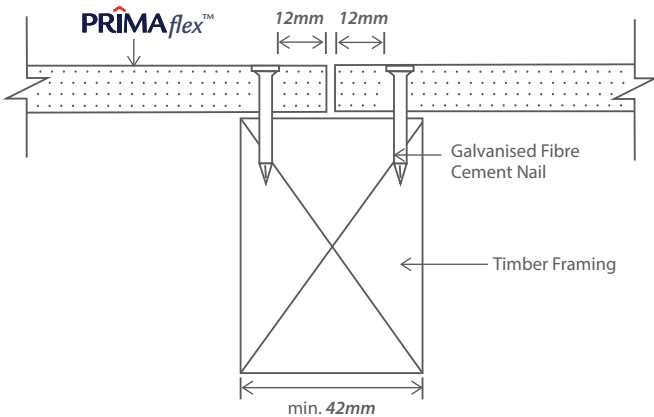
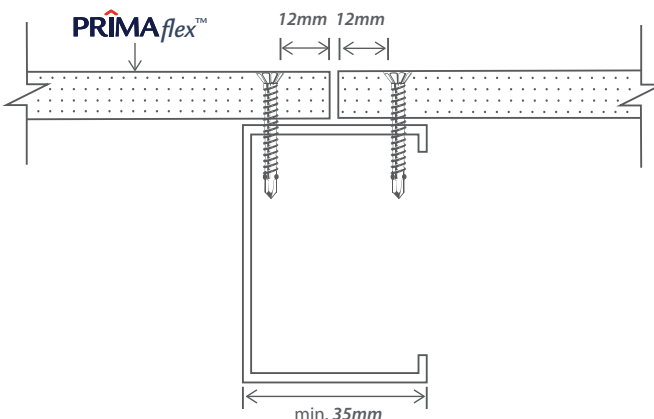

Figure 2.1: Fixing to Timber
Figure 2.2: Fixing to Steel (Butt Joint)
At sheet joint, single support framing system as shown in **Figure 2.1** and **Figure 2.2** requires a nominal face width (or flange for steel stud):-
1. The board edges may be joined closely to produce a neat butt joint as shown in **Figure 2.2**.